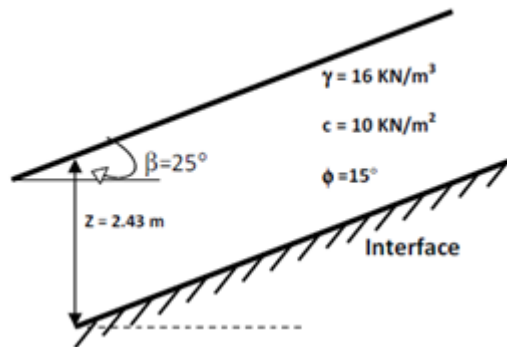

Figure 1
- (b) Find the factor of safety against sliding along with the interface for the infinite slope shown in Figure 1. Also find the height Z that will give F.S of 2 against sliding along the interface. [7M]